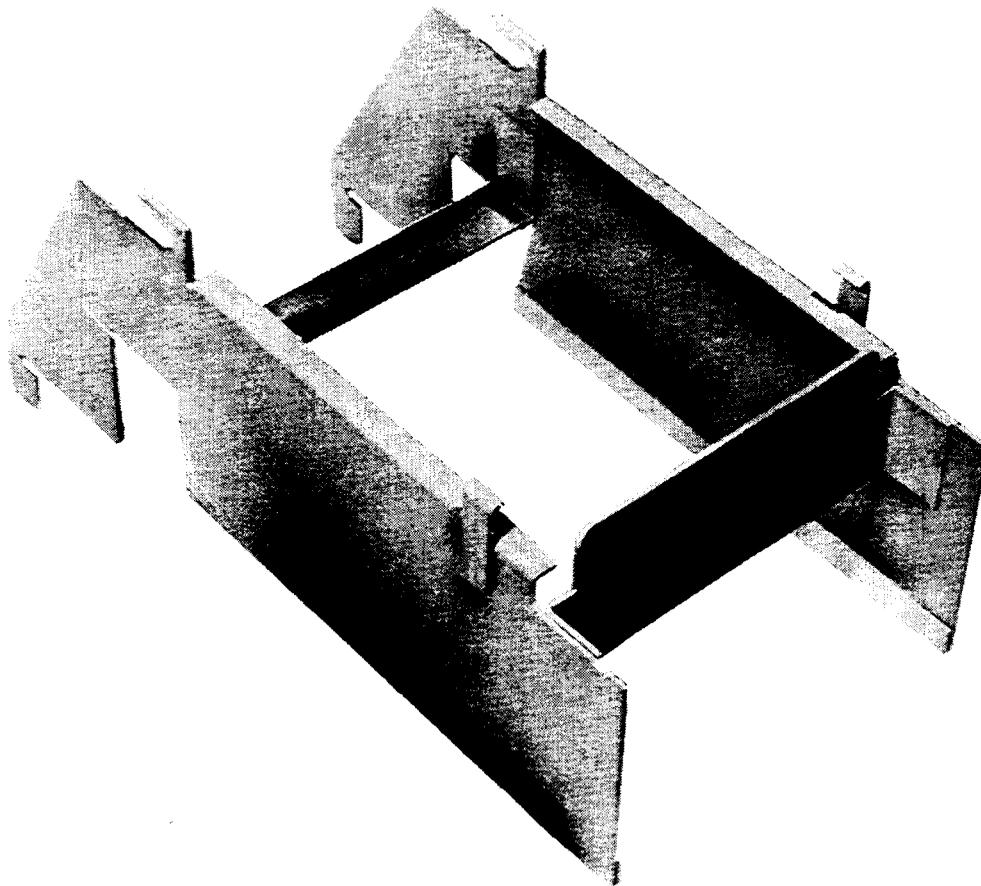

Figure 9. Service Bracket (KS-22325, LI)
- (3) Apply a slight downward pressure on the handle to release the upper latching details.
- (4) Tilt the top of the connector panel outward and downward.
- (5) Lift the connector panel off the bottom pivot pins.
- (6) Hold the connector panel in one hand and use the other hand to place the service bracket (Figure 9) on the frame pins. Figure 10 shows a service bracket in place on a new frame installation.
- (7) Place the lower connector panel pins into the upper slots of the service bracket.